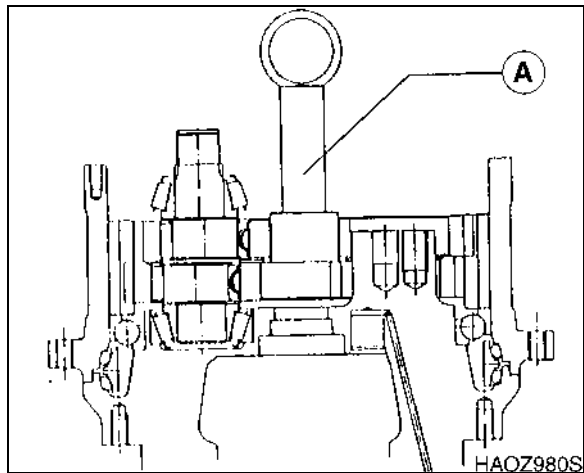

Figure 78
1. Install lifting tool (A, Figure 78) to RV gear assembly.
2. Using a lifting device lower RV gear assembly it into spindle (2).
3. Insert twenty-four pins (17) between the gear teeth and pin.